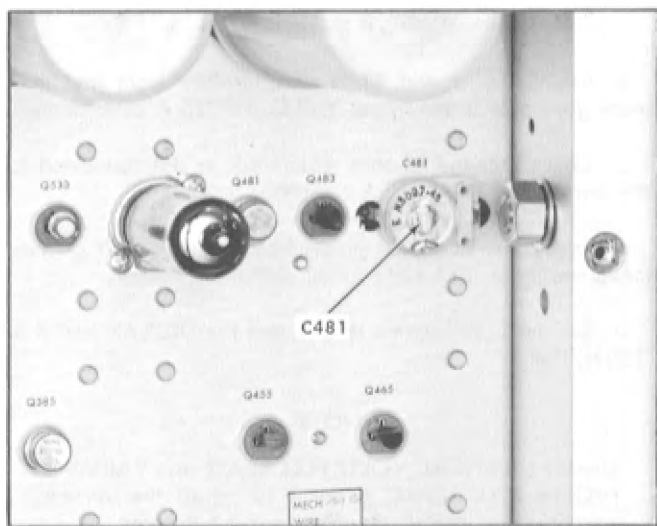
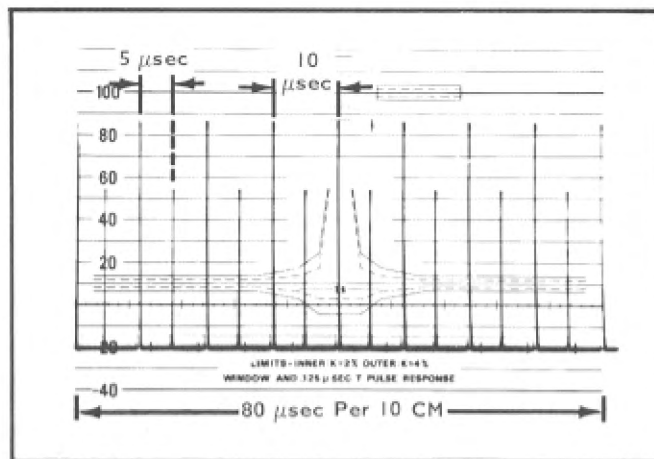

Fig. 6-17. Location of C481 adjustment.
Fig. 6-18. Adjusting C481 for correct $\times 1$ sweep timing.
16. Adjust Miller Timing Capacitor (C481) ①
- c. Adjust the Miller timing capacitor (C481; see Fig. 6-17) for 80 μ s per 10 cm (see Fig. 6-18).